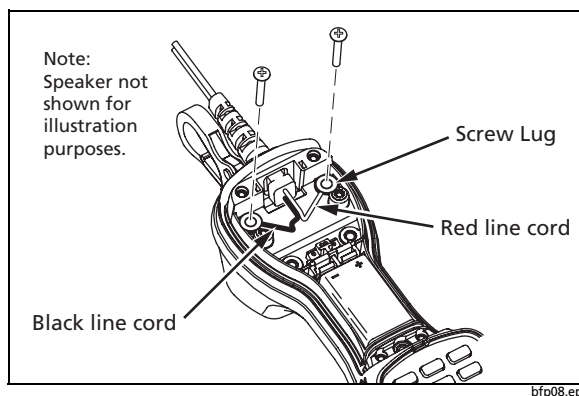

Figure 8. Removal/Installation of Line Cord Screw Lugs
- 6 Slip the line cord screw lugs (Figure 8) out through the hole in the end of the housing.
- 2 Fasten the red wire lug to the PC board (Ring) with screw and washer (Figure 8).
- 3 Fasten the black wire lug to the PC board (Tip) with screw and washer (Figure 8).